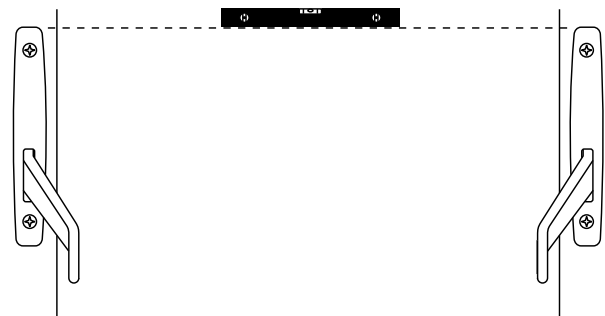

Figure 8
2. Mount active case, engaging hook under lifting flange. Secure with screws furnished. (Figure 8)